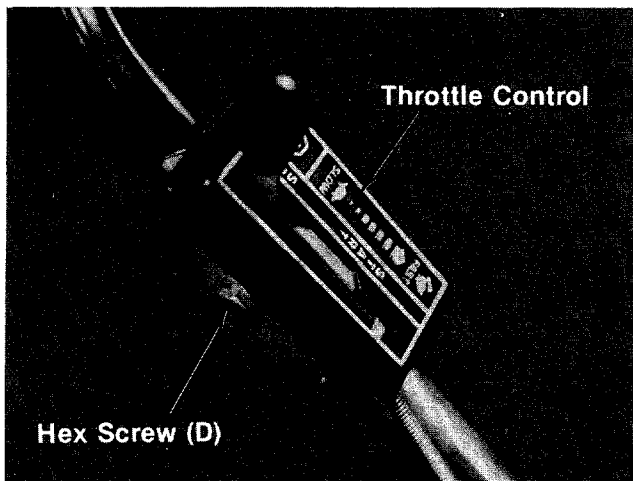

FIGURE 5.
- Place the throttle control in position on the **right** hand side of upper handle. Secure with hex screw (B) and hex lock nut (E) provided. See figure 5.